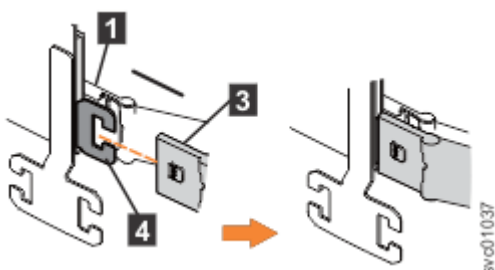

Figure 53. Install the outer connector of the upper CMA to the outer member of the support rail
3. Install the outer connector of the upper CMA assembly (3) to the outer member of the left support rail (4), as shown in Figure 53 on page 56.